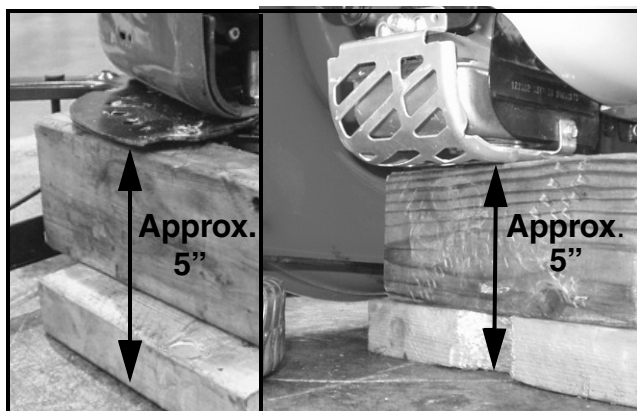

FIGURE 7
21. Place the mower on it's side so that the air filter/carburetor are up towards the sky. Check for oil or fuel leaks, correct if necessary. Secure mower with blocking as shown in Figure 7.